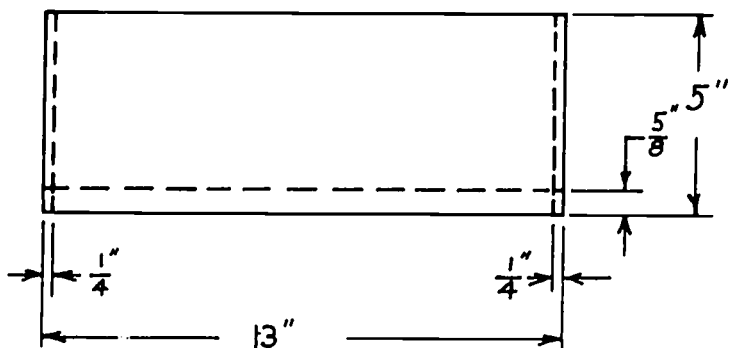

Fig. 49A-3. Duct Layout
3. On the boot locate the center of the circle. Mark it with the awl. Mark also the six fold lines. See Fig. 49A-4.